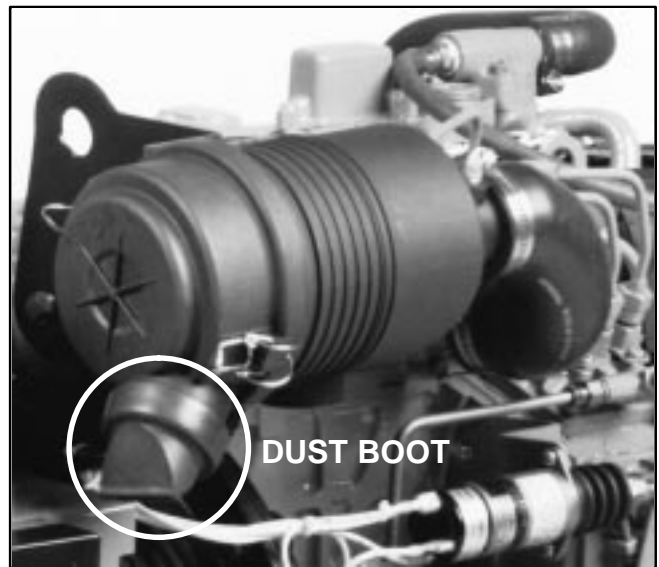

FIGURE 7-2. AIR CLEANER ASSEMBLY
1. Unclip the cover (Figure 7-2) and pull the filter element out gently to reduce the amount of dust dislodged. Gently twist or move the element side to side to disengage the seal and pull it out.